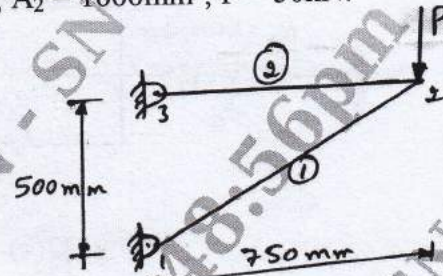

Fig Q6(b)
b. A plane truss shown in Fig Q6(b), determine nodal displacement, and stresses in each element.